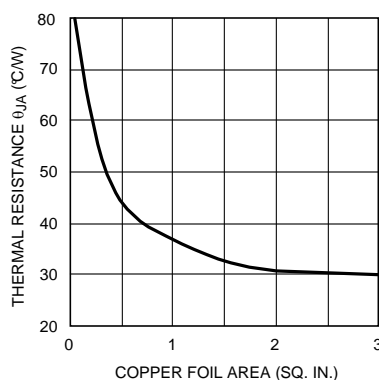

Figure 54. Thermal Resistance (typ) for 7-L DDPACK Package Mounted on 1 oz. (0.036 mm) PC Board Foil
5. Choose a copper area that will ensure the specified $T_{J(MAX)}$ for the calculated θ_{JA} . θ_{JA} as a function of copper area in square inches is shown in Figure 54.
4. Finally, using this value for θ_{JA} choose the minimum value of copper area from Figure 54.
Examining Figure 54, we see that we cannot attain this low of a thermal resistance for one layer of 1 oz copper. It will be necessary to derate the part by decreasing either the ambient temperature or the power dissipation. Other solutions are to use two layers of 1 oz foil, or use 2 oz copper (see Table 1), or to provide forced air flow. One should allow about an extra 15% heat sinking capability for safety margin.